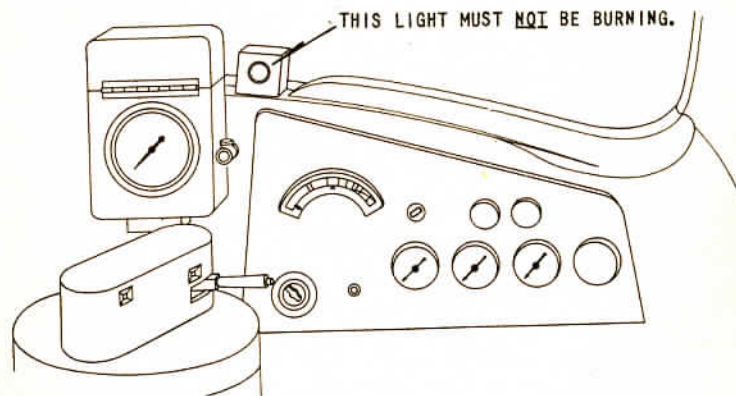

Fig. 1
Check other pumps in the locomotive to see if they are running. If all the fuel pumps are stopped, check the items shown on Figures 1, 2, and 3 in this booklet.
- d. Check to see that "PC Open" light is not burning (See Fig. 1, Page 1).